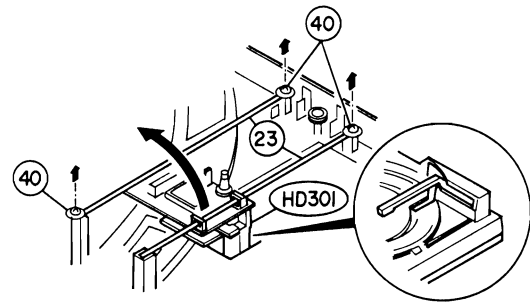

Figure 6
- Take out the 3 fixing screws (40) of the rail (23), remove the rail, then lift up the Bracket Assembly to a position at which the tone arm (HD301) is aligned with the cut out portion of the cabinet opening as shown in Figure 6.